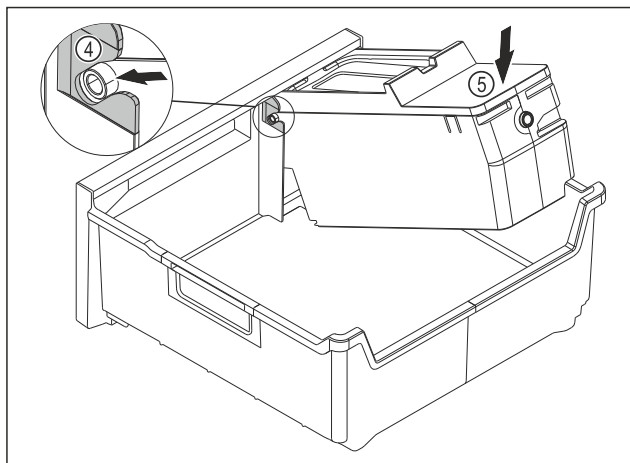

Fig. 87
- ▶ Installing the EasyTwist-Ice body: Push the axes for the EasyTwist-Ice body into the guides Fig. 87 (4).
- ▶ Press the EasyTwist-Ice body Fig. 87 (5) down at the back.